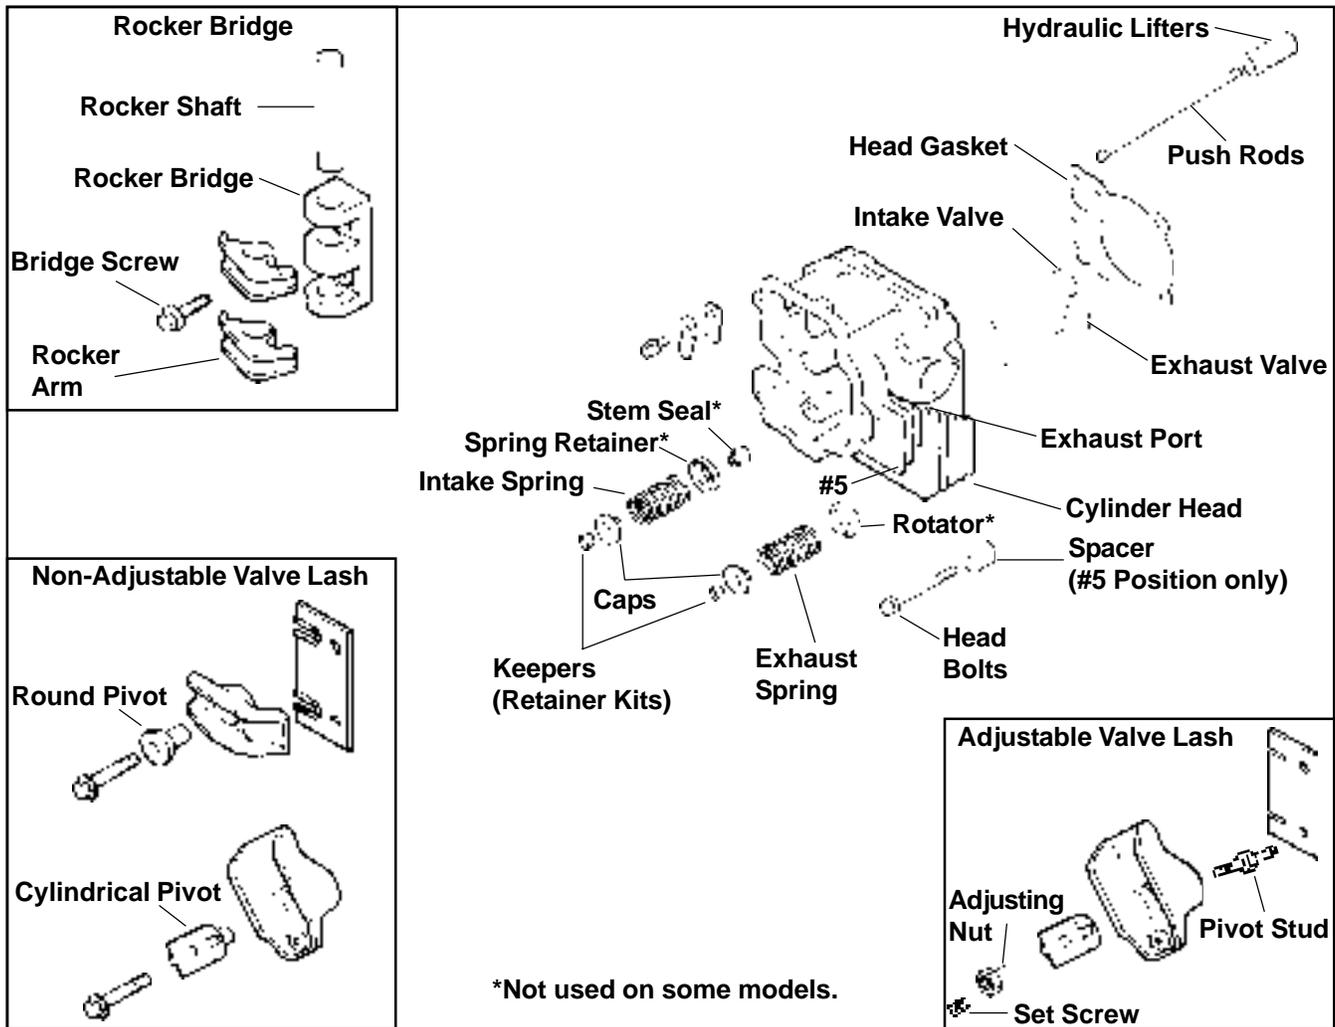

Figure 11-37. Cylinder Head Valve Train Differences.
Refer to Figure 11-37 for cylinder head differences. Assemble the components accordingly, based on head configuration involved.
#### Heads with Separate Pivots/Rocker Arms— Figure 11-37
4. **Rocker Bridge Heads—Figure 11-37**
### Heads with Separate Pivots/Rocker Arms– Figure 11-37